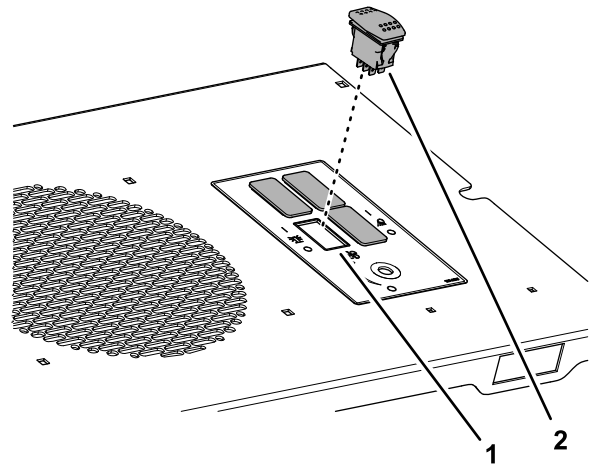

Figure 11
- Remove the plug from the beacon switch opening on the switch panel (Figure 11).